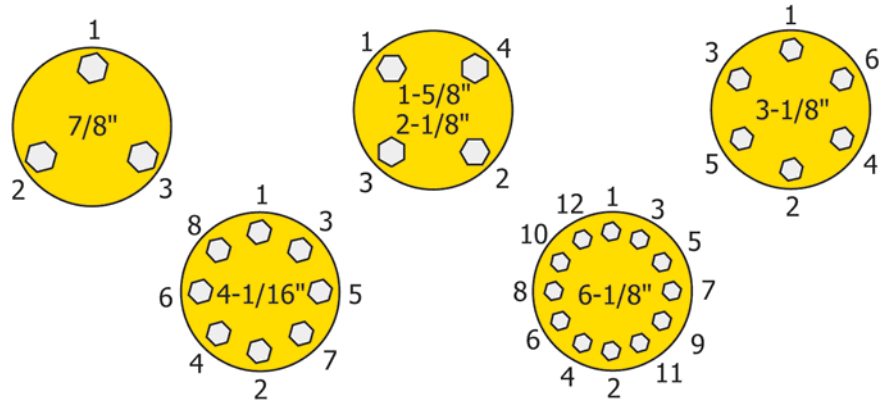

Figure 3. Flange hardware tightening sequence
- (6) Align the radiator with the baymount flange as shown, with the top of the radiator pointing toward the top of the feedline. Carefully place the radiator into position over the flange studs and inner conductor connector.
- (7) First snug the baymount flange hardware, then tighten in the sequence shown in Figure 3. Torque in accordance with Table 1 on page 7.